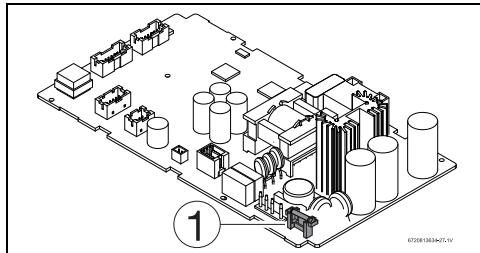

Fig. 39 Fuse position
- ▶ Check the fuse on the printed circuit board for electrical continuity, see fig. 39, [1].